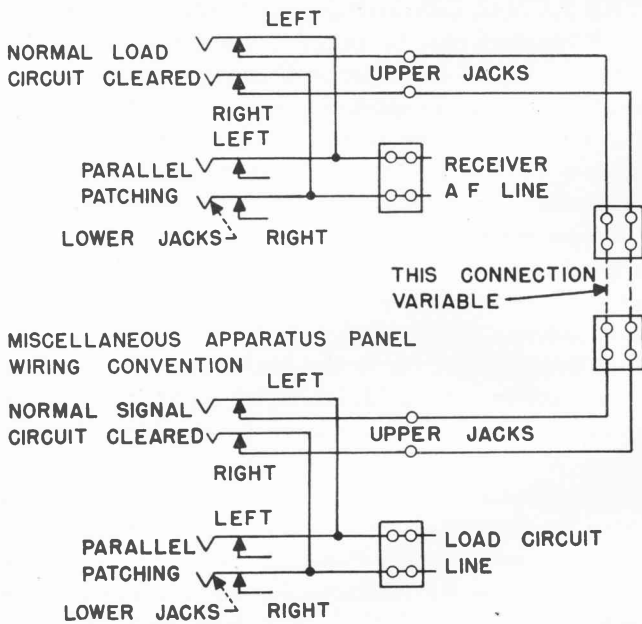
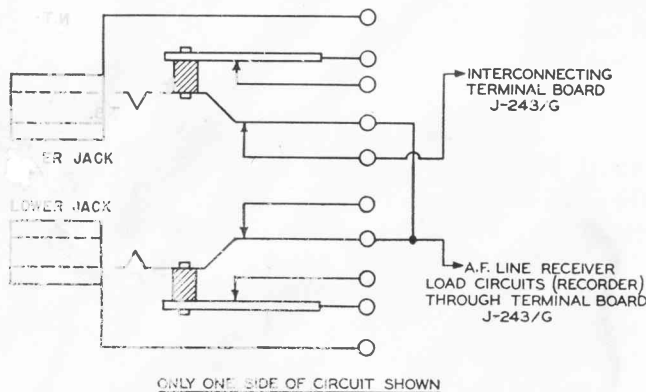

Figure 2-21. Wiring Convention, AF Section
Figure 2-24. Wiring Convention For AF Jack Panels
(a) AF JACK PANELS.—As shown on the wiring convention (figure 2-21) the upper and lower pairs of jacks on the Jack Strip are wired in parallel and in such a fashion that plugging horizontally into the top pair breaks the normal circuit; while plugging horizontally into the bottom pair establishes a parallel connection.
(2) **PATCHING OPERATION.**—Figure 2-21 shows the wiring convention for the Receiver Output and Miscellaneous Apparatus Jack Panels. Figure 2-24 shows the operation of the jacks in the Receiver Output and Miscellaneous Apparatus Jack Panels as installed and wired. It can be seen that insertion of a patchcord plug into the bottom jack establishes a parallel connection, while insertion into the top jack interrupts the "normal through" circuit and substitutes another circuit in its place.
(b) LOAD EXCHANGE PATCHING.—The AF section of the Signal Distribution System contains in all cases Jack Mounting Strips Navy Type -491394 half of which are known as Receiver Output Panels and the other half known as Miscellaneous Apparatus Panels. The Panels are identical, but their function differs slightly as shown in the wiring convention (figure 2-21). A few specific cases are explained below. Since the system is very flexible, the operator is able to adapt the components to meet the situation with which he is confronted.